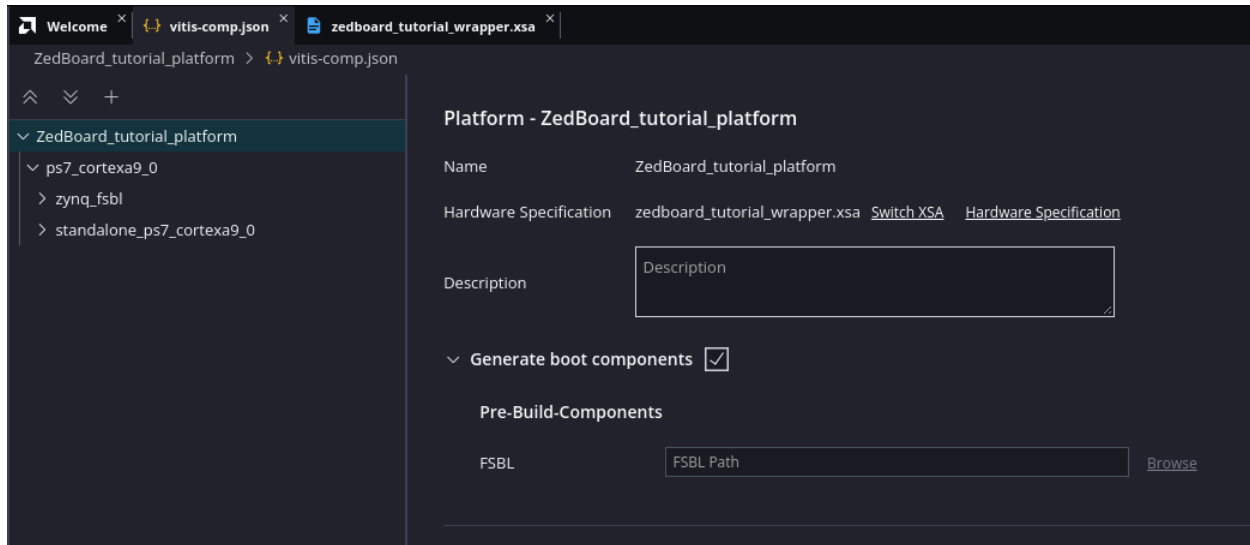
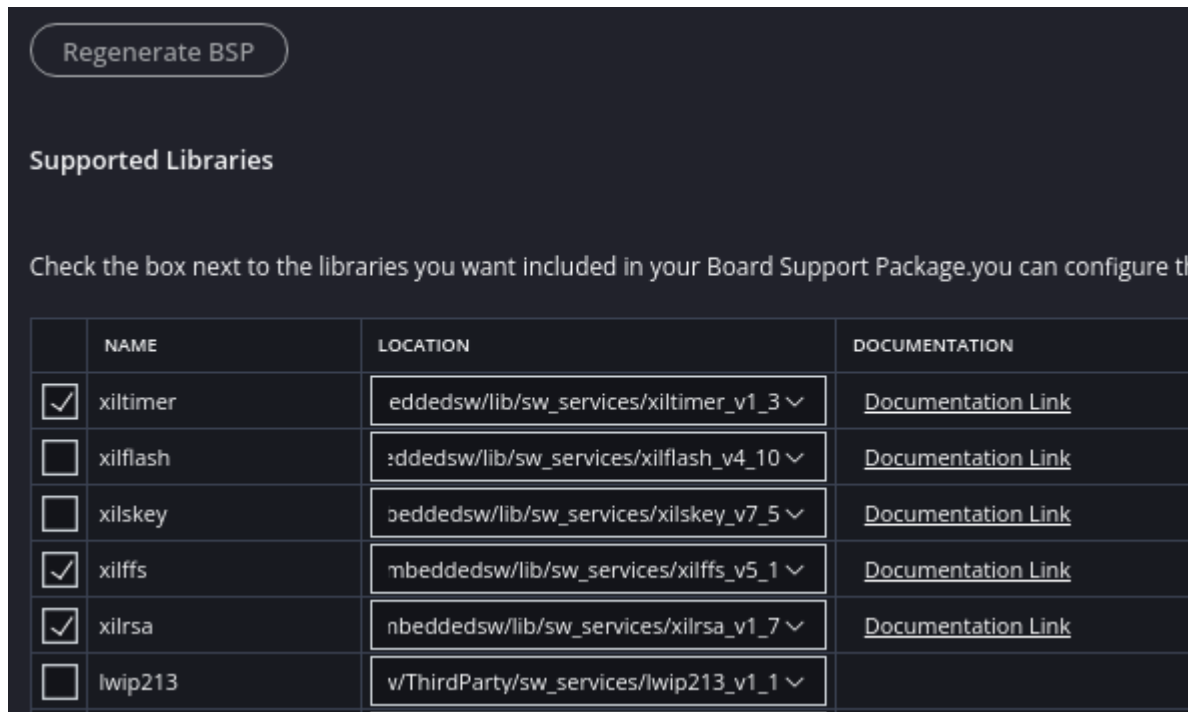

Figure 19: The platform summary screen for the platform imported from Vivado.
Figure 22: The BSP page where the xilffs and xilrsa libraries have been added.
- Click “Next” and then “Finish” to create the platform. This will open a window with a summary of the platform as shown in Figure 19. If you click the “Hardware Specification” link on the window, it will read from the .xsa file and report the address map for the processors. If you scroll down on the map for the ps7\_cortexa9\_0 processor, you should be able to see an entry for the “LEDs” module created in the previous section. **If you cannot find the AXI GPIO IP, please redo the export procedure in the**
8. On the summary page that appears, click on the “Navigate to BSP Settings” button. BSP stands for Board Support Package. This is effectively a massive library of header files and drivers that are generated based on the platform the application is running on. These header files allow us to interact with GPIO, get the addresses of different peripherals, and more. Another thing they let us do is make FSBLs, or First-Stage Bootloaders, which we will be using to package our code. However, before we can generate an FSBL, we need to include two libraries in the BSP. Clicking the “Navigate to BSP Settings” button will bring you back to the platform summary screen shown in Figure 19, but a few levels down as shown in Figure 22. Under “Supported Libraries” check the boxes for xilffs and xilrsa as shown in Figure 22. Once this is done, click the “Regenerate BSP” button also shown in Figure 22 to make sure the BSP contains the new changes. This process enables us to make FSBLs for **this application only**. The same settings will need to be applied to other projects if you want to make an FSBL.